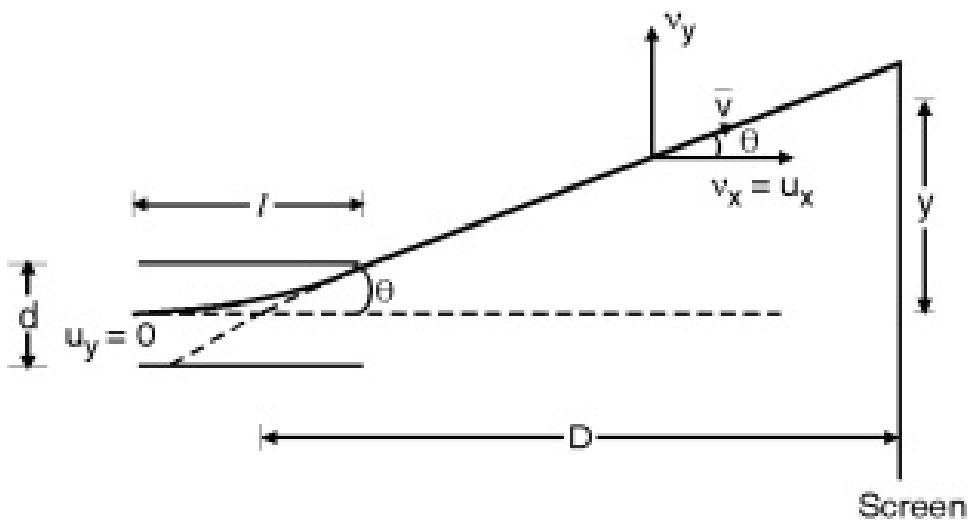

Fig. 7.2.1
- In Fig. 7.2.1 we have two plates with length ‘l’ and separated by a distance ‘d’. The upper plate is having positive charge and the lower plate is having negative charge.
- The path of electron will become parabolic till it takes an exist and later move on straight line path with velocity v , (with $u_x = v_x$) and hit the screen at deflection 'y' as shown in Fig. 7.2.1.
\therefore From Fig. 7.2.1